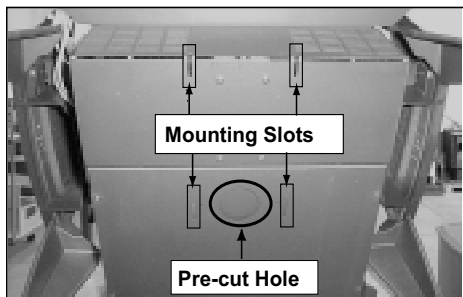

Figure 17.1
1. **Figure 17.1** shows bottom of convection blower mount and pre-cut air vent opening for reference only. Air channel should be mounted with stove in upright position.